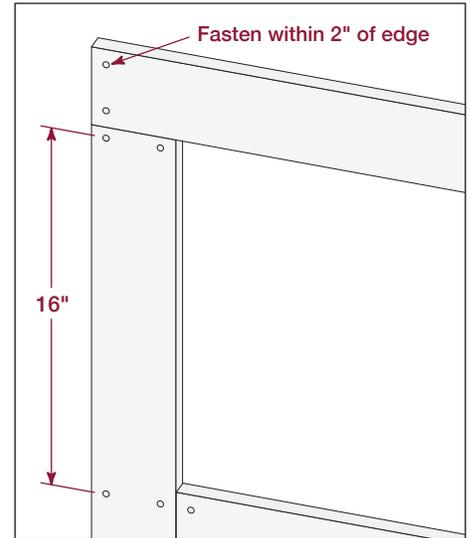

Fig. 4
- When installing TruExterior Trim, allow the top trim pieces to extend to the edges of the vertical trim pieces. The bottom trim should fit between the two vertical side pieces (**Fig. 4**)
- Nail the trim pieces in place within 2 inches of the edge of the trim piece using approved fasteners (**Fig. 4**)